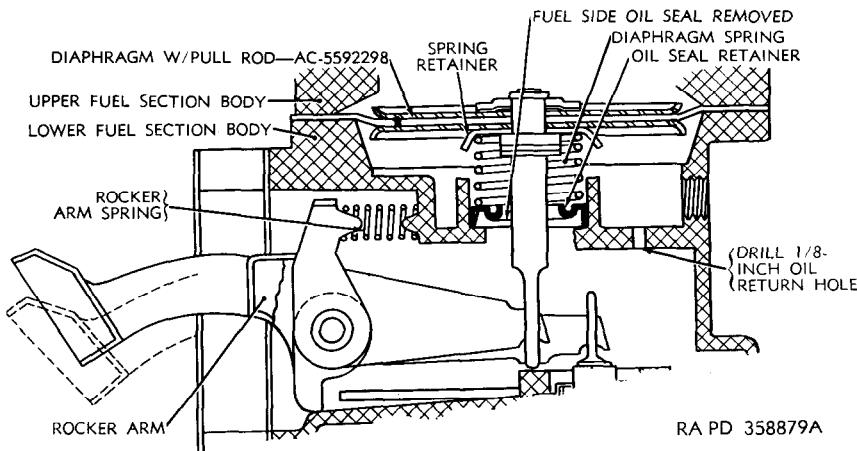

Figure 48. Sectional view of lower fuel section body of fuel pump showing oil return hole.
- (3) Remove the two screws securing the fuel and vacuum pump, rocker arm link spacer, and gaskets to the crank-case and remove the parts.
b. Modification of Fuel Pump (fig. 48). To minimize premature failures of fuel pumps caused by excessive pressures within the fuel pump and the trapped oil in the lower section of the upper body, modify the pump as described in (1) through (8) below.
- (1) Remove machine screws and lockwashers which secure the flanges of the upper and lower section bodies.
- (4) Drill a $\frac{1}{8}$ -inch hole in deck of body (fig. 48) to act as an oil return and pressure relief hole. Metal clips resulting from the drilling should be blown from the fuel pump with compressed air.
- (5) Install new oil seal and original retainer when using fuel pump repair kit G740-7375384; if fuel pump repair kit G758-8329981 is used, install oil seal retainer G758-8329706.
- (6) Install diaphragm spring and spring retainer.
- (7) Install new diaphragm with pull rod after soaking it in clean kerosene. While holding the diaphragm flange in the upward position, insert the pull rod through the spring retainer, spring, and oil seal retainer in the lower fuel section body. The flat of the pull rod must be at right angles to the fuel link. Hook the pull rod to the short (outer) fuel link.
- (8) Aline the upper fuel section body on the lower fuel section body in accordance with marks scribed in (1) above. Push on rocker arm until diaphragm is flat across body flange. Install original screws and lockwashers until screws just engage lockwashers. Push rocker arm in a full stroke and tighten screws securely.
(fig. 48)
- (a) Bend fuel and vent lines upward, at fuel tank, so that vent line will locate above the fuel line (fig. 48).
- (1) *Removal.* Unscrew the nuts (W and Y) on the ends of the fuel line (X), from the elbow on the pump, and the elbow on the carburetor assembly, and remove the line.
- (2) *Installation.* Position the fuel line (X) between the fuel and vacuum pump and the carburetor assembly. Screw the nuts (W and Y) on the ends of the line into the elbow on the carburetor and the elbow on the fuel and vacuum pump respectively.